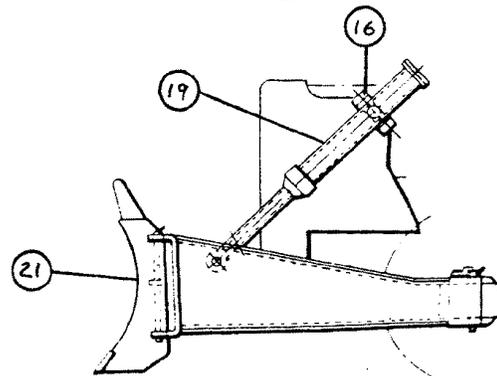

FIGURE 2—
4. Nomenclature—The specific names of the various components of a dozer are shown in Table 1 and are illustrated in Figure 1 and Figure 2.